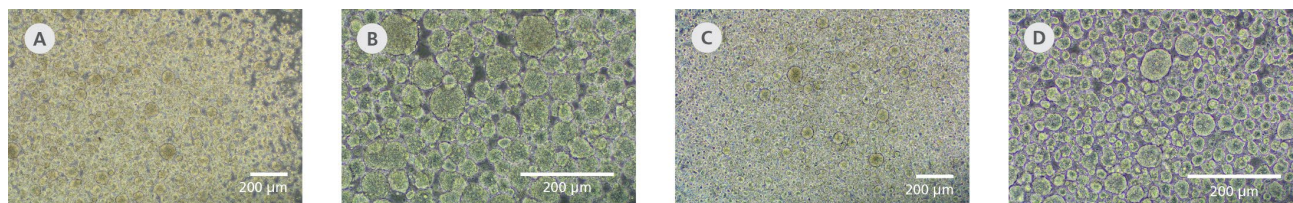

Figure 1. hPSC Aggregates on Day 1 in Aggregate Seeding Medium
20. Observe aggregates under a microscope. Aggregates should reach a diameter of < 50 µm and exhibit round and smooth edges (see Figure 1).